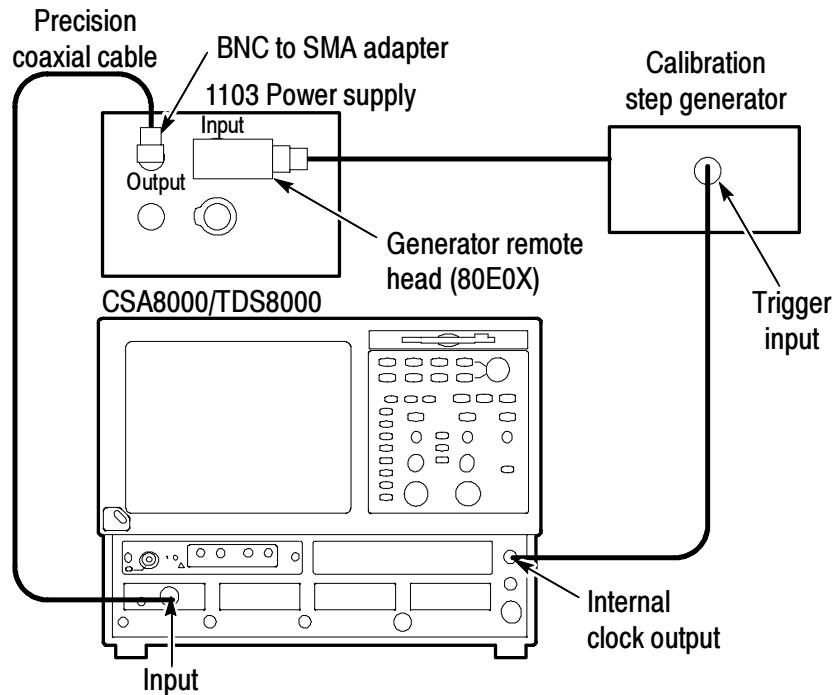

Figure 16: Test system rise time setup
1. Connect the test equipment as shown in Figure 16.
5. Adjust the oscilloscope horizontal and vertical position controls to display a signal similar to that shown in Figure 16.